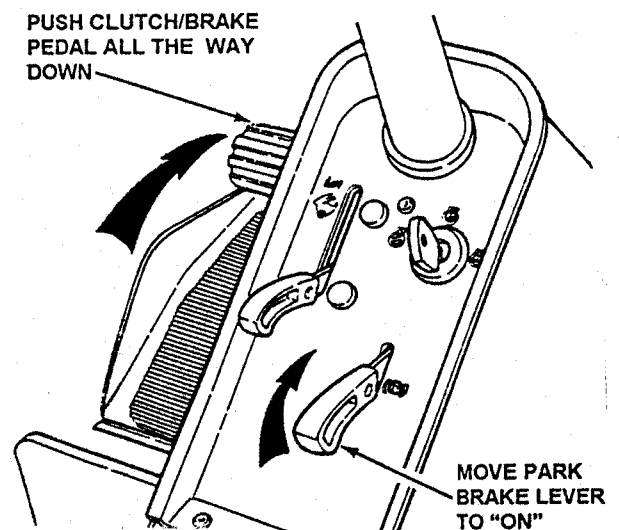

FIGURE 4.16
2. Push the clutch/brake pedal all the way down. Move the park brake lever up and hold in the "ON" position then release the clutch/brake pedal to set the park brake. See Figure 4.16.